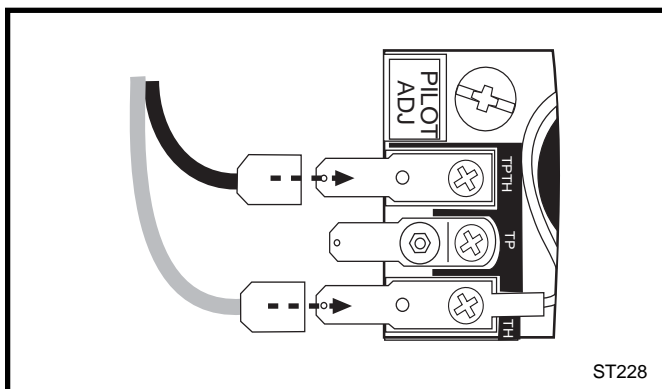

Fig. 48 Attach switch wires to valve.
3. Attach wires to valve terminals. (Fig. 48)
2. Connect the thermostat wires to the valve. (Fig. 48)